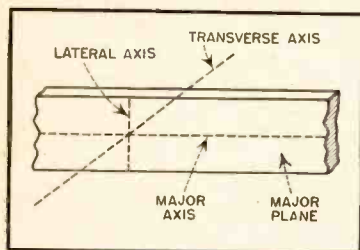

Fig. 1. Tape axis nomenclature.
**Transverse Axis:** An imaginary line perpendicular to the major plane and major axis. (See Fig. 1)